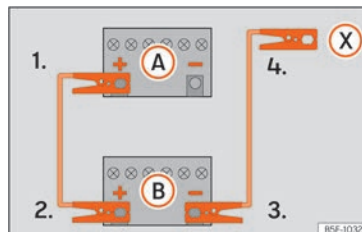

Fig. 42 Diagram of connections for vehicles without Start Stop system
2. Connect one end of the *red* jump lead to the positive (+) terminal of the vehicle with the flat battery (A) » Fig. 42.
3. Connect the other end of the *red* jump lead to the positive terminal (+) in the vehicle providing assistance (B).
- 4a. *In vehicles without a Start-Stop system:* connect one end of the *black* jump lead to the negative terminal (-) of the vehicle providing the current (B) » Fig. 42.